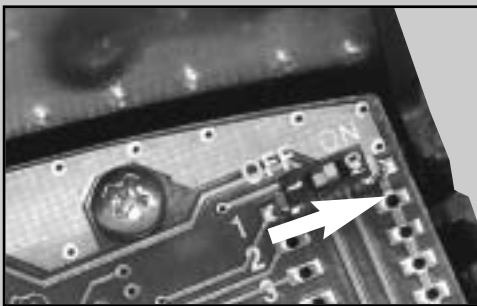

Figure 3-21
- If the DIP switch is set to ON, the proMIX 701 will reset the boiler load. (See Figure 3-21.)